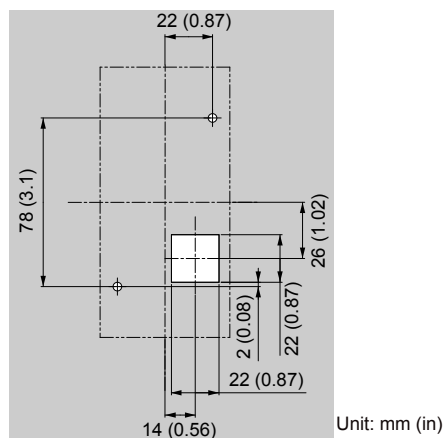

Figure 2.8 Panel Cut-Out Dimensions (External/Face-Mount Installation)
1. Cut an opening in the enclosure panel for the HOA keypad as shown in Figure 2.8.